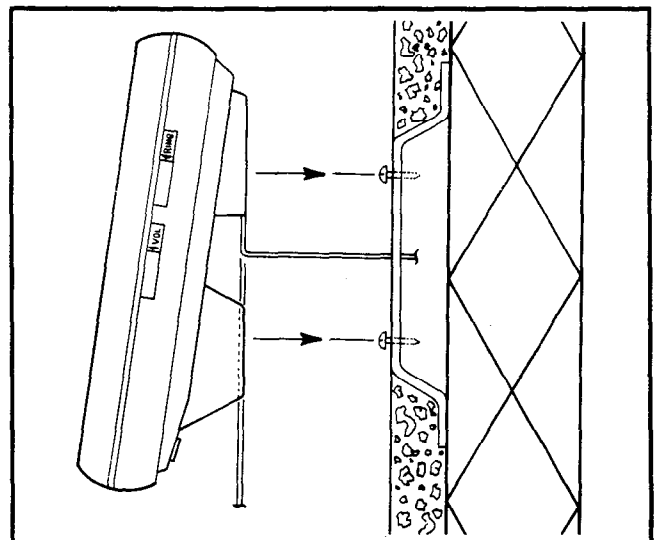

FIGURE 28—EKT WIRE ROUTING
07.16 Route the tail cord through the holes in the base and secure the EKT (Figure 28).